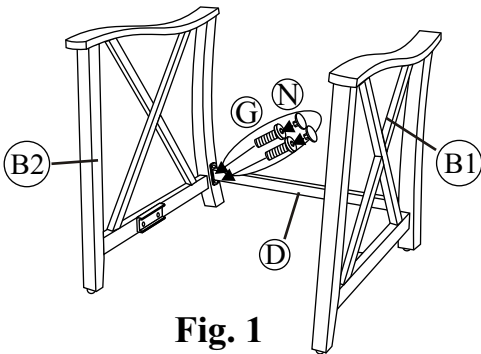

Fig. 1
Step 2: Attach the leg support to the chair legs(B1 & B2) with drain holes facing DOWN by using the 1/4"x20mm bolts (G) as shown in Fig. 1. Guide these bolts through the holes in the leg support, into pre-drilled holes in the chair legs. **Hand tighten only.**